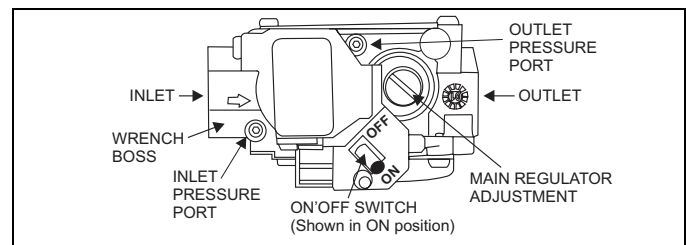

FIGURE 28: Gas Valve
Manifold gas pressure may be measured by two different procedures. It may be measured with the burner box cover in place or it may be measured with the burner box cover removed. Follow the appropriate section in the instructions below. Refer to Figure 28 for a drawing of the locations of the pressure ports on the gas valve.
1. Refer to Figure 28 for location of pressure regulator adjustment cap and adjustment screw on main gas valve.